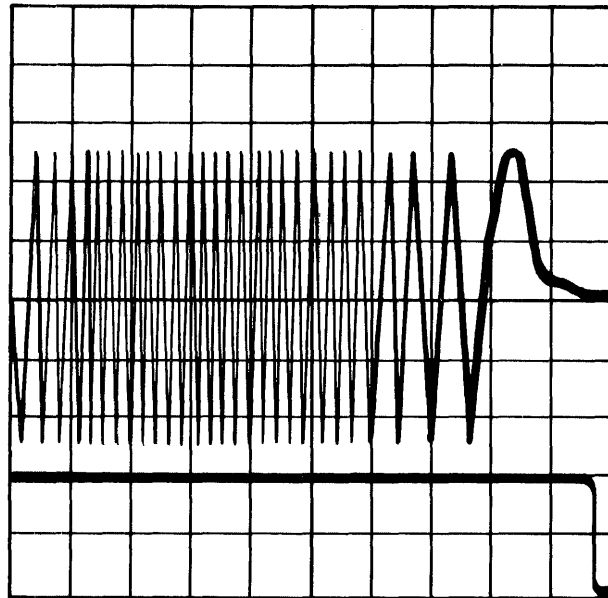

Figure 5-32. Detent Signal Output Waveform (manual)
- D. While moving positioner by hand, adjust AMPLITUDE (R53) and BALANCE (R49) potentiometers until DETENT signal is approximately 10V. p-p, and balanced around ground. See Figure 5-32.